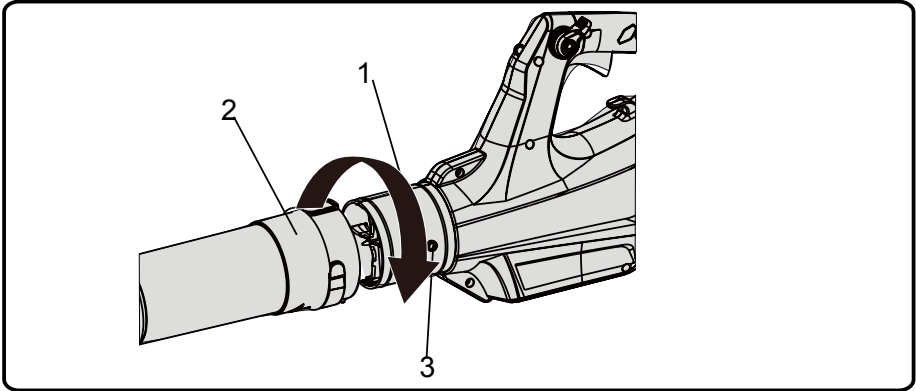

Fig.2
1. Slide the blower tube onto the blower. (See Fig.2)